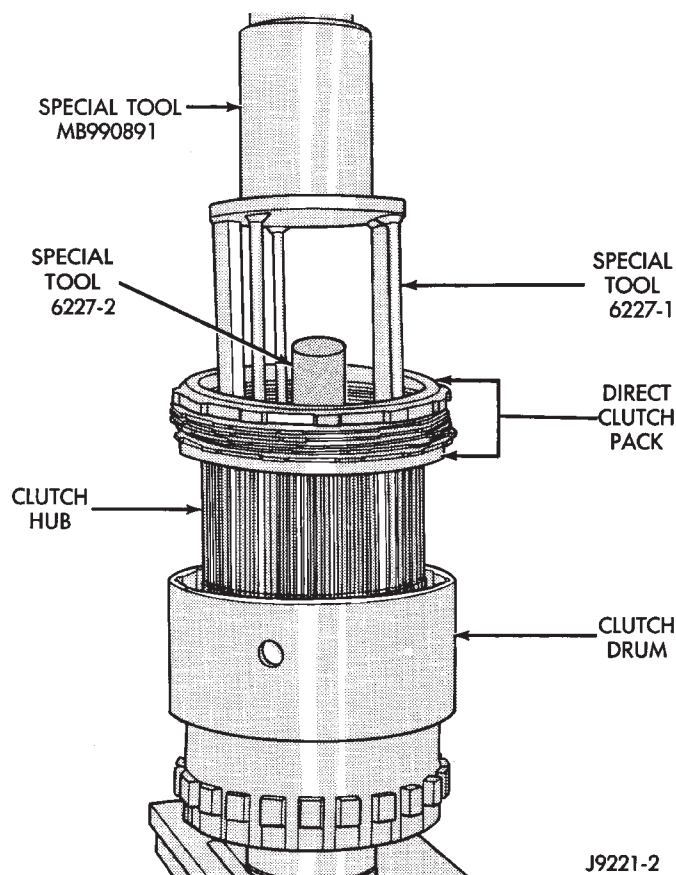

Fig. 52 Mounting Geartrain Assembly In Shop Press
(24) Mount geartrain assembly in shop press (Fig. 52).
(25) Position Compressor Tool 6227-2 on clutch hub (Fig. 52).
(26) Position Tool MB990891 or similar size tool on top of compressor tool (Fig. 52). Similar size tool should have minimum outside diameter of 3-1/2 inch, minimum wall thickness of 1/4 inch and be approximately 4 inches long.
(27) Slide direct clutch pack upwards on hub (Fig. 52). Slide pack upward and set it partially on edge of hub and compressor tool as shown in Figure 52.